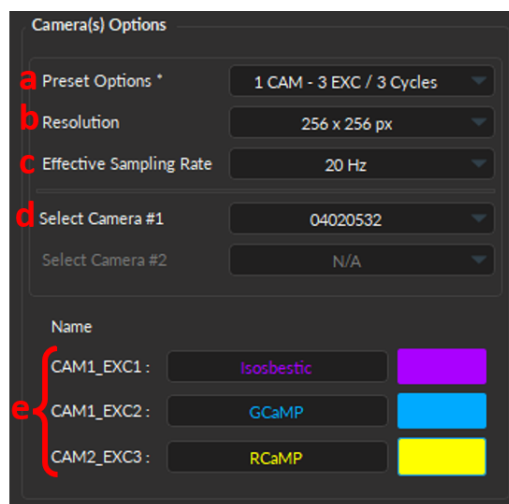

Figure 10.18: BPMC Channel, Camera Options
1. The **Camera(s) Options** (Fig. 10.18) defines which preset option to use and allows users to select the proper camera and camera parameters for the recording, such as:
- a) The **Preset Options** drop-down (Fig. 10.18, a) contains six pre-configured options which are listed in Table 10.2, along with their use cases.
- b) The **Resolution** drop-down (Fig. 10.18, b) sets the resolution (pixel x pixel) of the Image stack from which ROI(s) will be computed. There are six options, among which the lowest available *Image size* is 256 x 256, and the maximum is 1024 x 1024. Note that if the save **Image Stacks** option is enabled, using a large resolution will result in larger .doric data files.
- c) The **Effective Sampling Rate** drop-down (Fig. 10.18, c) sets the true frequency (in Hz) of each **EXC** since, when more than one excitation is used, the excitations are interleaved with one another, reducing the sampling rate by half (for 2 EXC) or by a third (for 3 EXC). Thus, the following **Effective Sampling Rate** are available according to the number of excitations:
- d) The **Select Camera #** drop-down (Fig. 10.18, d) sets which CMOS camera sensor will be labeled as **CAM1** and **CAM2** (if in use), by selecting the *Camera ID*.
- e) The **Name CAM# EXC#** (Fig. 10.18, e) allows users to label the specific **Camera excitations** with more intuitive name. This setting also lets users select the trace color for the data collected during the corresponding excitations.